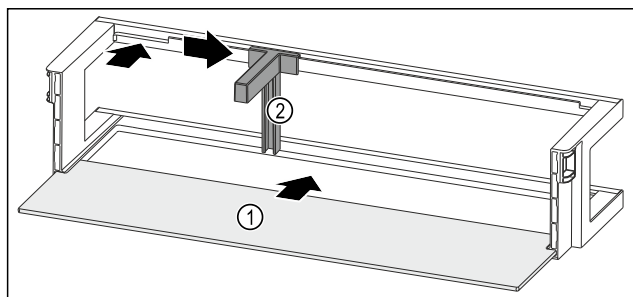

Fig. 217 Door rack with shelf
- ▶ Push the shelf Fig. 217 (1) into the side recesses.
- ▶ Insert the bottle holder Fig. 217 (2) in the recess.
- ▶ Push the bottle holder Fig. 217 (2) to the desired position to the side.